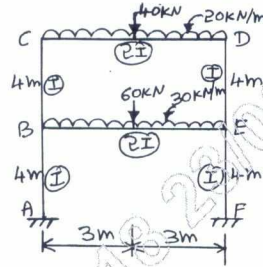

Fig.Q6
- 6 Analyze the portal frame as shown in Fig.Q6 by Kani's method by taking the advantage of symmetry and also determine its bending moment diagram.